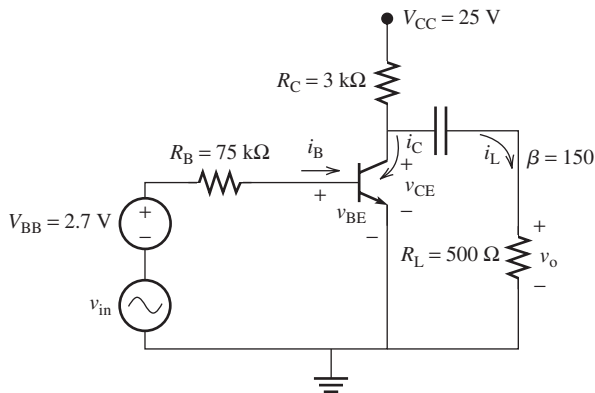

FIGURE P8.48 Circuit of Problem 8.48.
- 8.48 (H)* Find A_v , A_i , R_i , and R_o for the circuit shown in Figure P8.48.